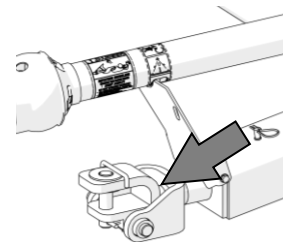

Figure 3
- 3) To assist in connecting the TDR-X to the tractor, the provided hitch pin can be temporarily placed in the hitch swivel to hold it level while aligning the hitch, as shown in Figure 3. Do not operate mower with the hitch pin in the hitch swivel.
- 1) With the draw pin placed in the hitch clevis (Figure 3 page 19), back the tractor to the hitch clevis.